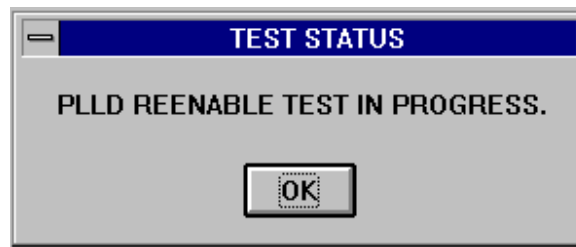
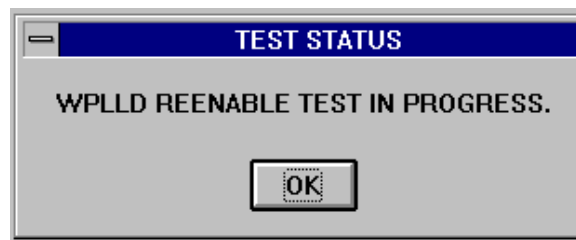

Figure 17. PLLD Test Status Window
Figure 18. WPLLD Test Status Window
3. If you click on the **CANCEL** button, the Priority Alarm window disappears from the screen, but no corrective action is taken. Click on the **OK** button to initiate a Reenable test on the sensor (PLLD or WPLLD) that caused the alarm condition. The Priority Alarm window disappears from the screen and a Test Status window appears to confirm that the Reenable test is underway [Figure 17 on page 19 and Figure 18 on page 19]. Click on the **OK** button to clear the dialog box.